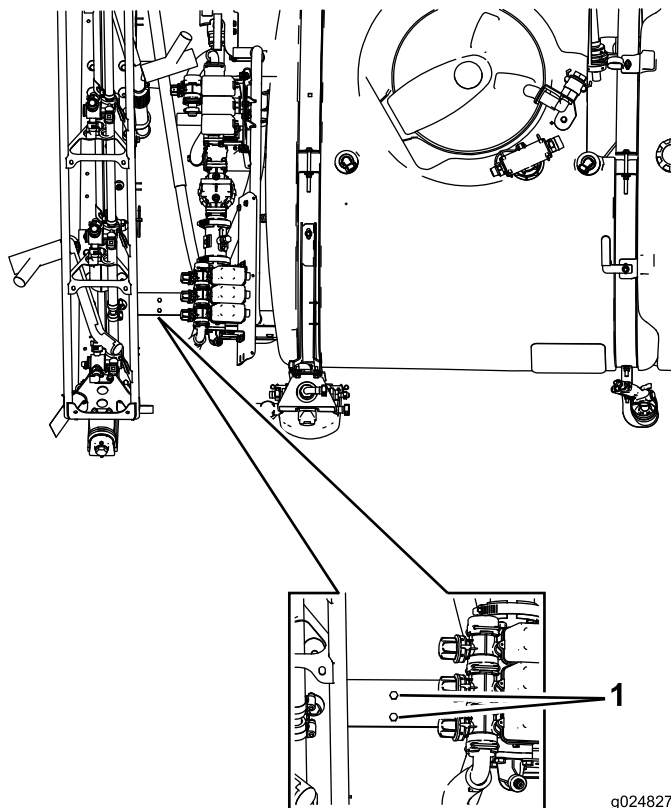

Figure 19
1. Using a 1/4 inch drill bit, drill 2 holes onto the frame (Figure 19).